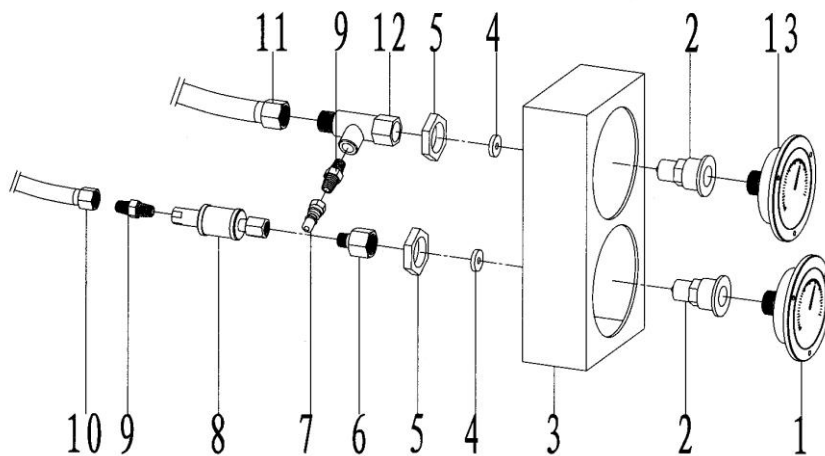

Fig.7-27
27. Oil filled equipment (Fig7-27, Table27)